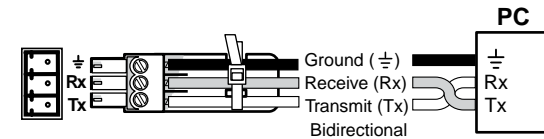

Figure 4. RS-232 Connector
- ⑩ **RS-232 connectors** — Connect one or two host devices to these 3-pole captive screw connectors for serial RS-232 (see figure 4).